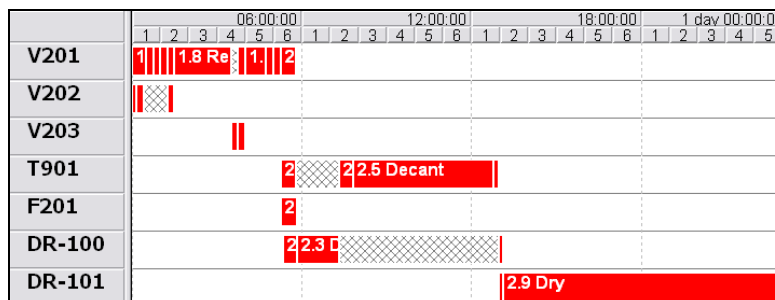

Figure 4: Schedule view (Gantt chart) of a step
- Figure 4 - A Gantt-chart view of an individual process or a collection of processes running in a given facility to adjust schedule operations